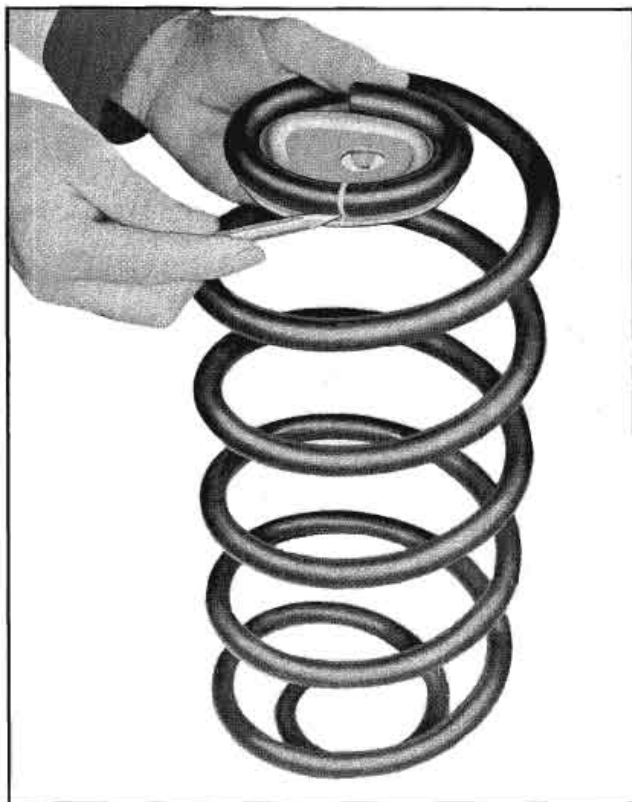

Fig. 3-31 Scribing Mark on Spring and Clamp
11. Place the upper spring clamp in each end of the new spring to determine at which end the clamp fits best. After selecting the best end for the upper clamp, scribe a mark on the spring and also on the spring clamp (Fig. 3-31). When the spring and upper